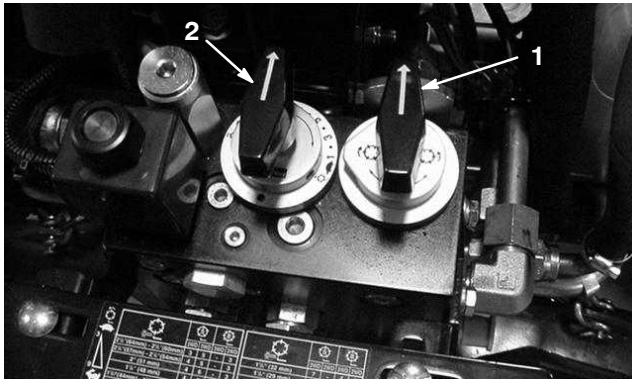

Figure 63
3. Rotate the backlap knob, on the valve block (Fig. 63), clockwise to the backlap position. Rotate the reel speed knob (Fig. 63) to position 1.